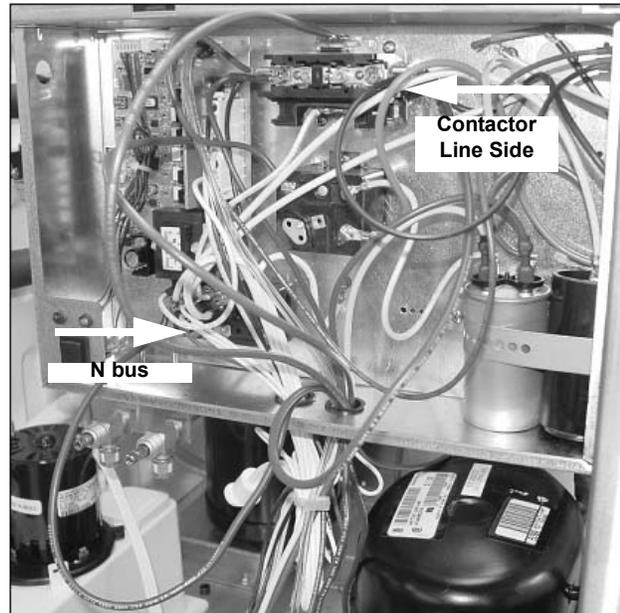

Figure 51.
53. Connect the crankcase heater (black wires) to the Neutral bus on the control board and the Line side of the contactor (Figure 51).